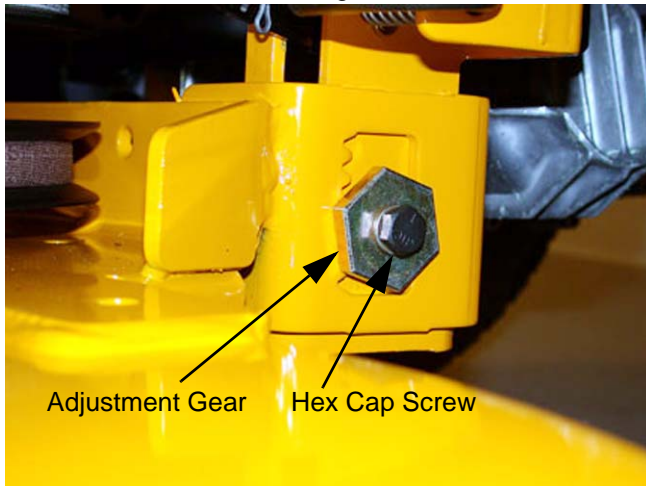

Figure 14.3
- 14.3. Loosen (DO NOT REMOVE) the hex cap screw on the left deck hanger bracket using a 1/2" and a 3/4" wrench. See Figure 14.3.